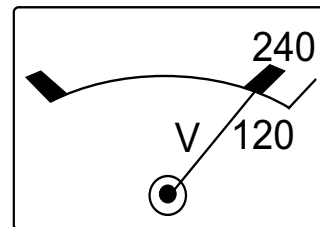

Figure 46. AC Voltmeter (120/240V)
5. Also verify that the AC voltmeter is registering a voltage reading as indicated by Figure 46.